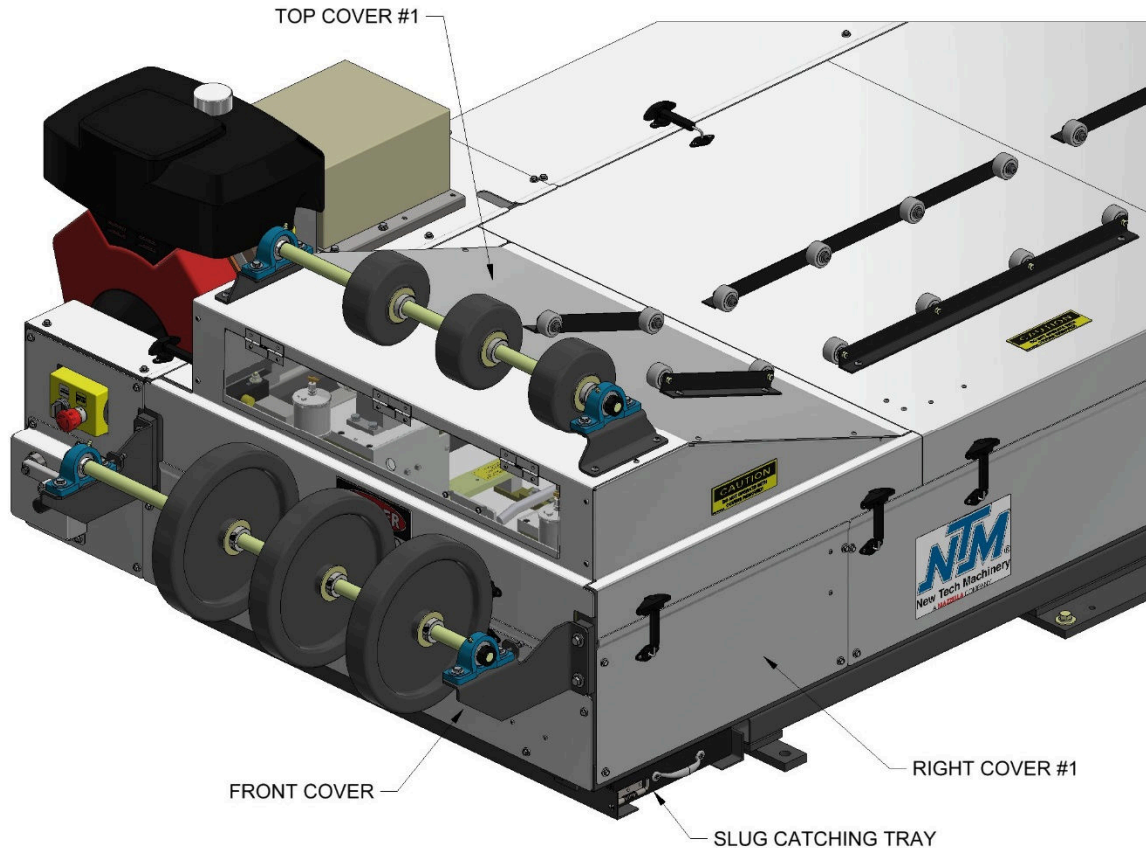

Figure 80: Notcher Covers
(Refer to Figure 77 through Figure 80)
2. Remove Top Cover #1, Right Cover #1, and the Front Cover as shown in Figure 80.